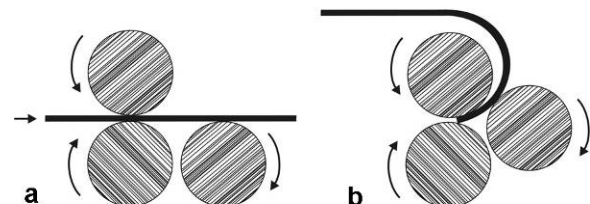

Figure 10-2
3. When material reaches the point where the radius is to begin (Figure 10-2), stop machine and raise idler roll to achieve desired bend.
4. Restart rolls and continue until bend is completed (Figure 10-2). Support workpiece as it exits machine.